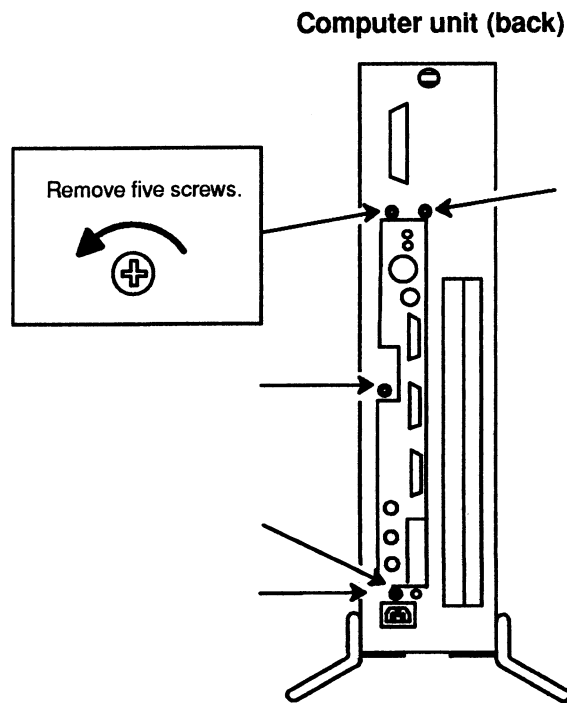

Figure 5-2 Removing the Screws that Secure the System Board Bracket to the Back of the Computer Unit
2. Using the small Phillips screwdriver, remove the five screws, shown in Figure 5-2, that secure the system board bracket to the back of the computer unit.